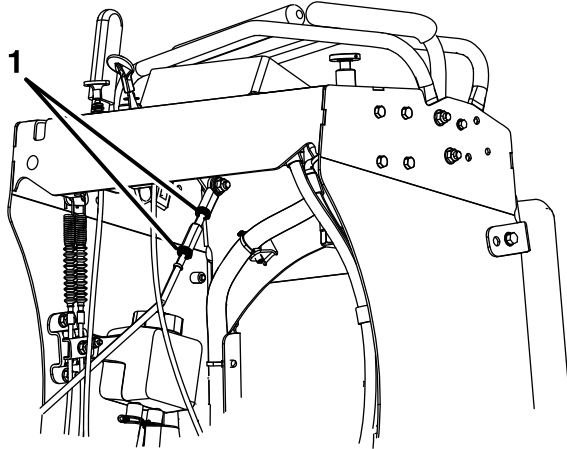

Figure 46
- A. Allow the control levers to return to neutral and loosen the 2 jam nuts on the hex adjustment linkage (Figure 46).
- C. Tighten the jam nuts (Figure 46).